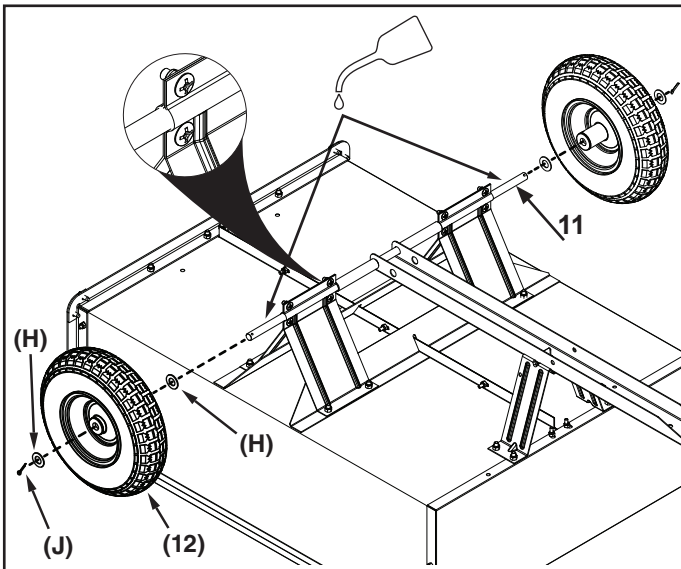

FIGURE 15
STEP 15: (SEE FIGURE 15)
- Attach the wheels to the axle by installing a large washer (H), a wheel (12), another large washer (H) and a 1/8" cotter pin (J). Repeat this step for the other side.
- Spread open the ends of the cotter pin (J).